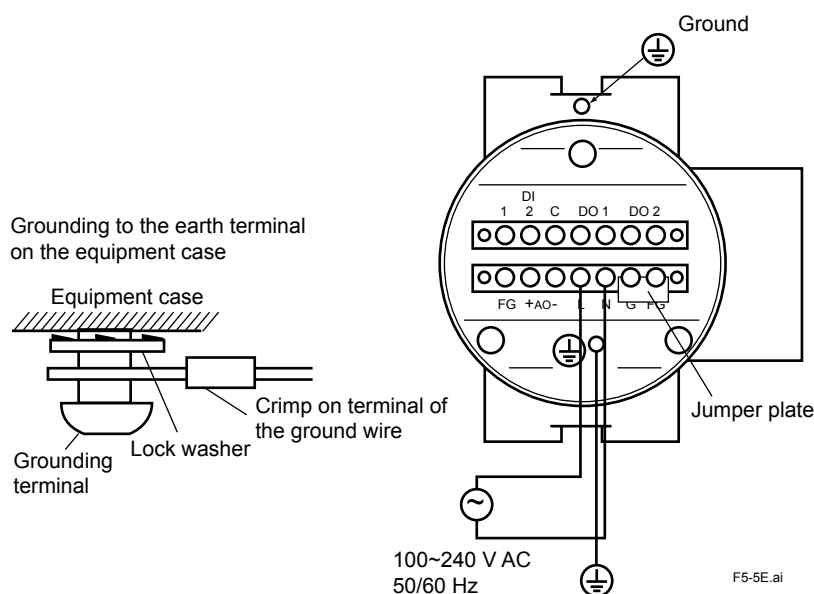

Figure 5.5 Power and Grounding Wiring
- (1) Keep the ground resistance of 100 Ω or less (JIS D style (Class 3) grounding).
- (2) When connecting the ground wiring to the ground terminal of the equipment case, be sure that the lock washer is in contact with the case surface (see Figure 5.5.).
- (3) Ensure that the jumper plate is connected between the G terminal and the FG terminal of the equipment.
- (4) The size of external ground screw thread is M5.